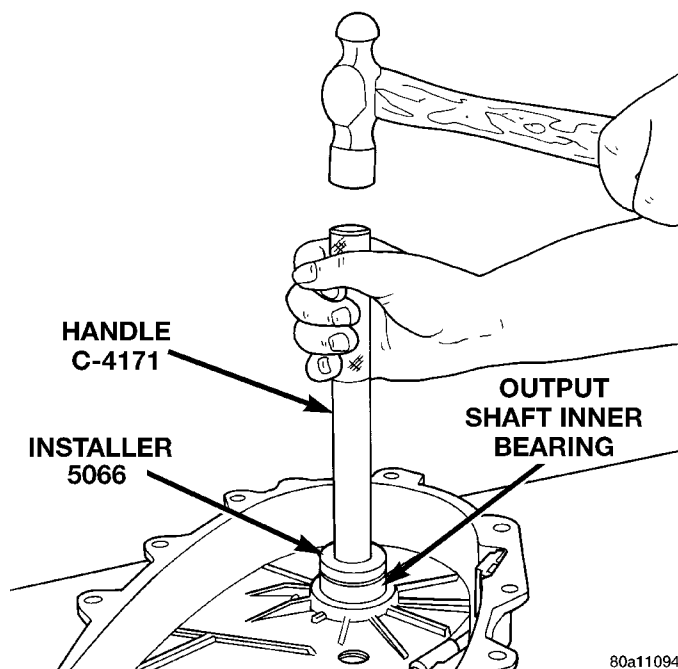

Fig. 58 Install Front Output Shaft Rear Bearing
(13) Install new bearing with Tool Handle C-4171 and Installer 5066 (Fig. 58). Lubricate bearing after installation.